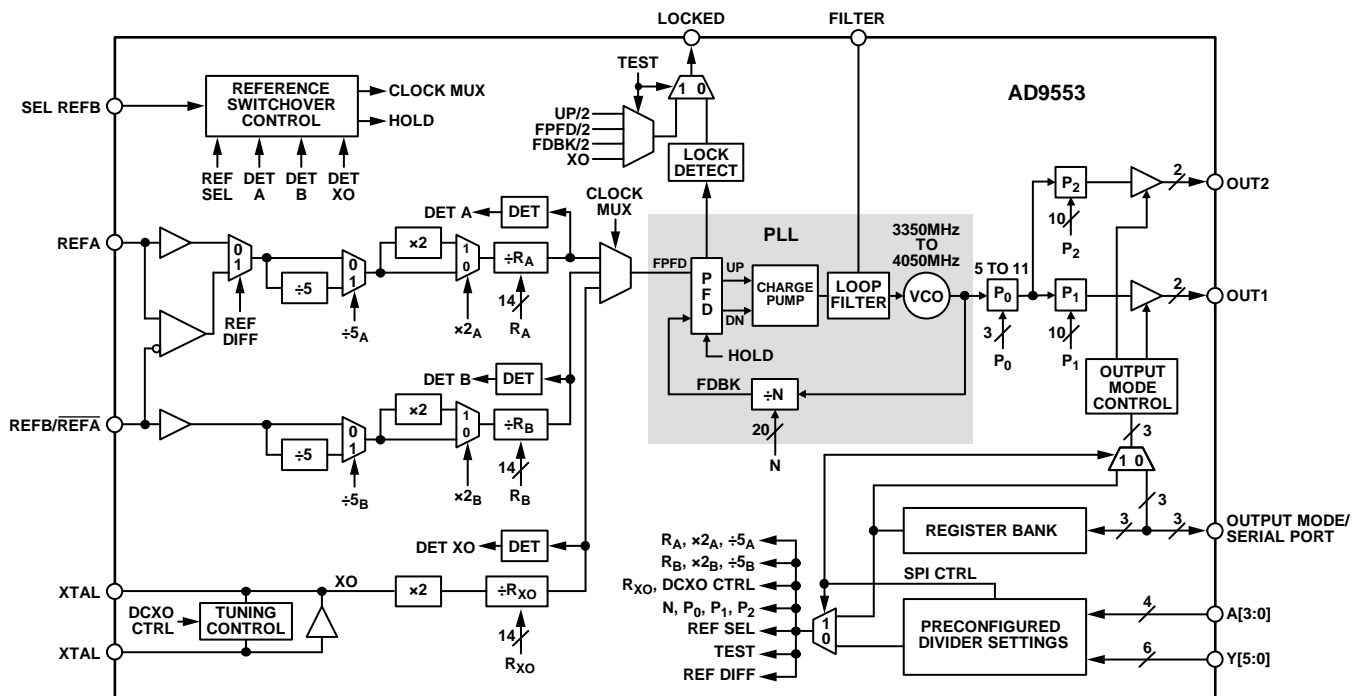

Figure 27. Detailed Block Diagram
Generally, the clock signals that appear at the input to the clock multiplexer (see Figure 27) all operate at the same frequency. Thus, the frequency at the input to the PLL (FPFD in Figure 27) is the same regardless of the signal selected by the clock multiplexer. The PLL converts FPFD to a frequency within the operating range of the VCO (3.35 GHz to 4.05 GHz) based on the value of the feedback divider (N). The VCO prescaler (P0) reduces the VCO output frequency by an integer factor of 5 to 11, resulting in an intermediate frequency in the range of 305 MHz to 810 MHz.
The frequency selection pins (A3 to A0 and Y5 to Y0) allow the user to hardwire the device for preset input and output frequencies based on the pin logic states (see Figure 27). The pins decode ground or open connections as Logic 0 or Logic 1, respectively.